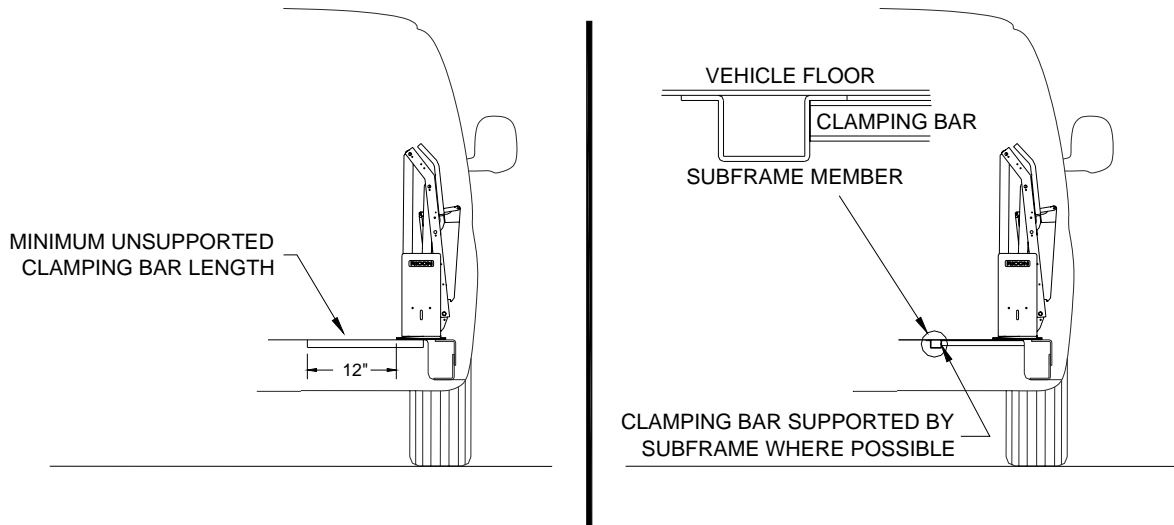

FIGURE 2-2: FORD VAN CLAMPING BAR ARRANGEMENT
- ◆ Refer to **Figure 2-2**. On Ford van installations, clamping bars are used to help evenly distribute floor loading and should only be cut if needed to clear a subframe member. A subframe member must be used to support clamping bar.